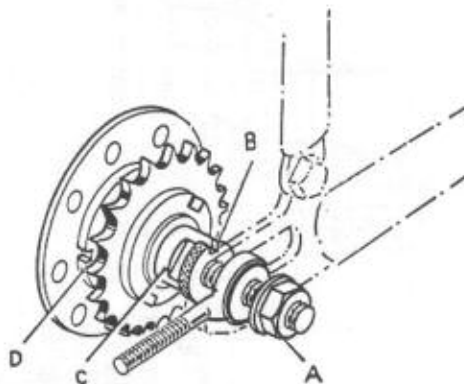

Fig. W7
Undo the Adjuster Cone Locknut (B. Fig. W7) and remove the cone (C). The complete Sprocket Carrier Assembly and Freewheel mechanism can then be withdrawn followed by the spring which is seated on the spindle. In some cases it may be necessary to pull the dust cover away with the sprocket carrier.